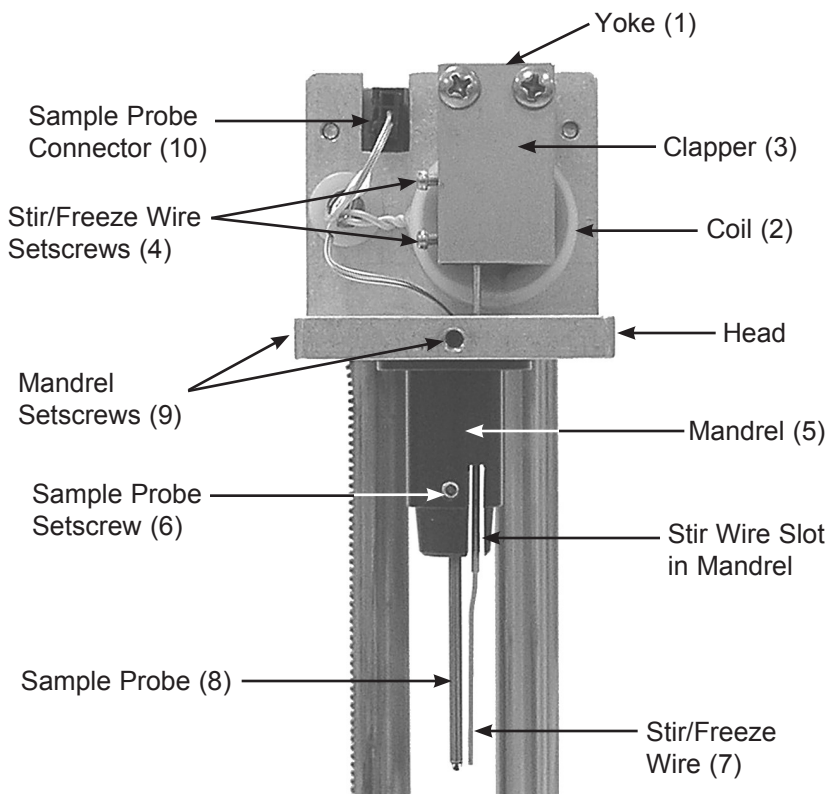

Figure 7: Operating Head
4. Unplug the sample probe connector (Figure 7, Item 10). The probe leads are electrically accessible through the side slots in the connector. Use care not to touch or bend the connector pins. Soil or salt from your fingers can increase the electrical resistance of the connection.
6. Loosen the two setscrews (Figure 7, Item 9) holding the mandrel in the head chassis. Lower the probe and mandrel down over the stir wire.
10. Arrange the leads so that they will not touch the clapper (Figure 7, Item 3) or be pinched when the head cover is replaced.
2. If vertical adjustment of the probe tip is necessary to center the black bead in the 0.2-mL sample volume, loosen the probe set-screw (Figure 7, Item 6), then manually raise or lower the probe within the mandrel. Retighten the setscrew gently (overtightening will crack or distort the thin plastic wall of the mandrel). Recheck as described in step 1 above.
2. Adjust the clapper spacing. Refer to Figure 7. Bend the yoke (Item 1) to locate the clapper (Item 3) closer to or further away from the coil (Item 2), whichever is found to increase the stir/freeze wire tip vibration.